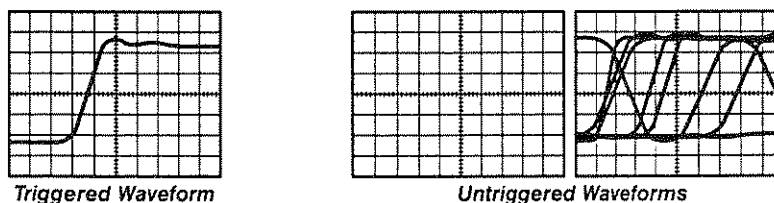

Figure 2-1: Examples of Triggered Waveforms
- The **triggering** system, which establishes conditions for acquiring signals. Properly set, triggers can convert displays from unstable jumbles or blank screens into meaningful waveforms (Figure 2-1). See page 2-13.